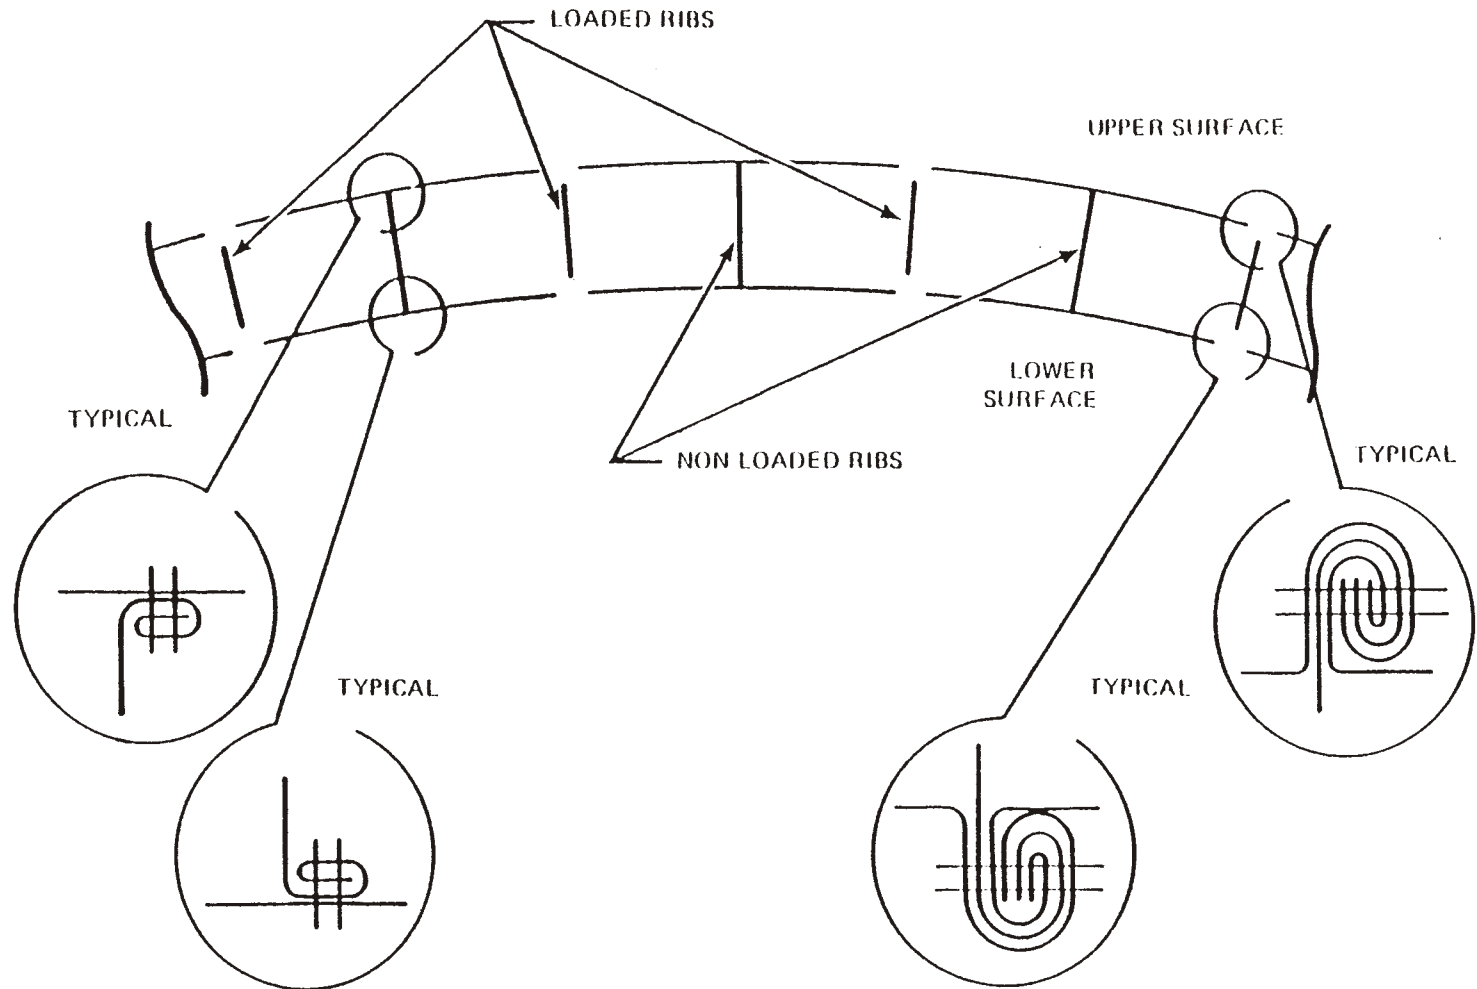

FIGURE 4b
**I-Beam:** Full-cell construction in which the top and bottom surfaces are joined to each other at the seams with the loaded ribs. The non-loaded ribs are typically joined to the top and bottom surfaces between the loaded ribs using a flat rolled seam. Figure 4b.